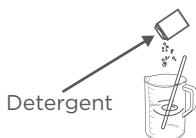

Figure 10
- 2.1 Prepare a large container, add 0.59 G/2.2 L of clean water and the provided cleaning/descaling detergent (prepare a solution based on actual needs), and mix them together (see Figure 10).